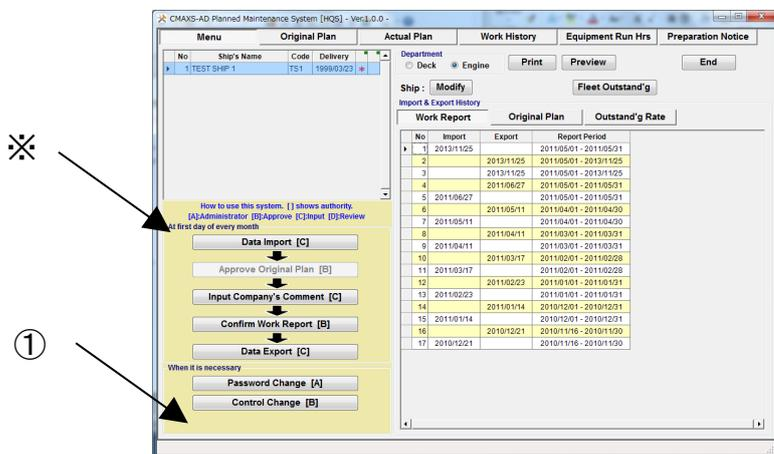

Fig.13-1 Menu Screen
- (1) Select [Control Change] button on the "PMS Initial Screen"(Fig.13-1).